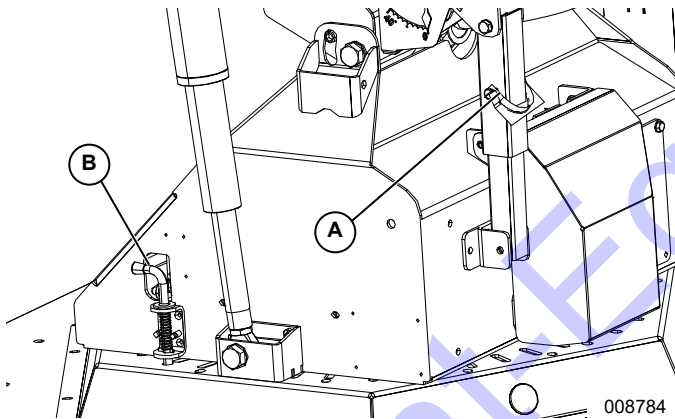

Figure 3-4. Transport Safety Locks
4. See **Figure 3-4**. Connect power cable to socket (D)
5. See Figure 3-4. Open water control valves (B).
- See Figure 3-4. Verify transport lock (D) and (E) are disengaged. For more information, see Using Transport Locks.